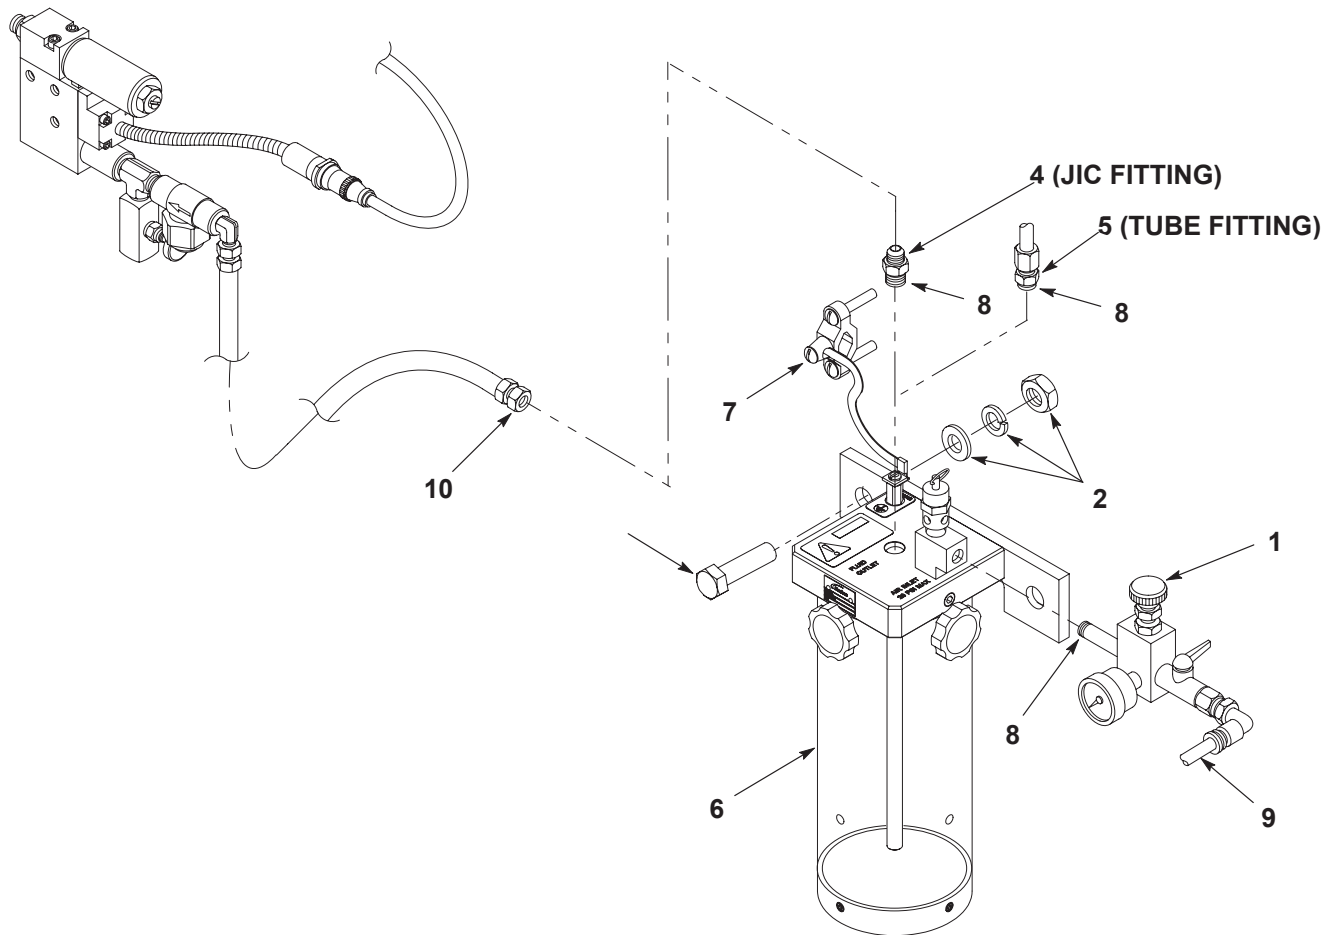

Figure 3 Installing the Ink-Dot Reservoir Manifold (Typical)
1. See Figure 3. Install the Ink Dot reservoir manifold (6) using the existing mounting hardware (2). Tighten the screws securely.
- a. Apply pipe thread adhesive (8) to the threads of the applicable connector (4 or 5).
- b. Install the applicable connector to the Ink-Dot reservoir manifold (6) and tighten securely.
- c. Connect the connector (10) to the fitting (4 or 5) and tighten securely.
3. Apply pipe thread adhesive (8) to the threads of the brass nipple on the air pressure regulator (1). Connect the regulator to the Ink Dot reservoir manifold (6).
4. Connect the air supply tubing (9) to the air pressure regulator (1).
5. Install the ground cable (7) to a true earth ground.